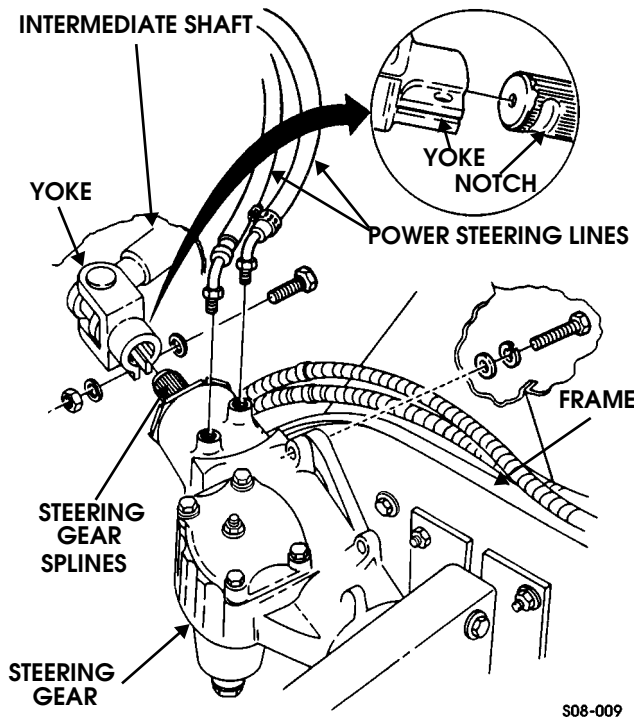

Figure 8-18: Steering Gear Mounting
1. Disconnect two power steering lines from steering gear (Figure 8-18).
6. Remove three bolts, lockwashers, washers, and steering gear from frame (Figure 8-18).
1. Align steering gear with mounting holes in frame and secure with three washers, lockwashers, and bolts. Tighten bolts to 54-66 lb-ft (73-89 N•m) (Figure 8-18).
1. Align hole in yoke with notch on steering gear splines (Figure 8-18). Insert bolt through yoke and tighten locknut to 60 lb-ft (81 N•m) (Figure 8-20).